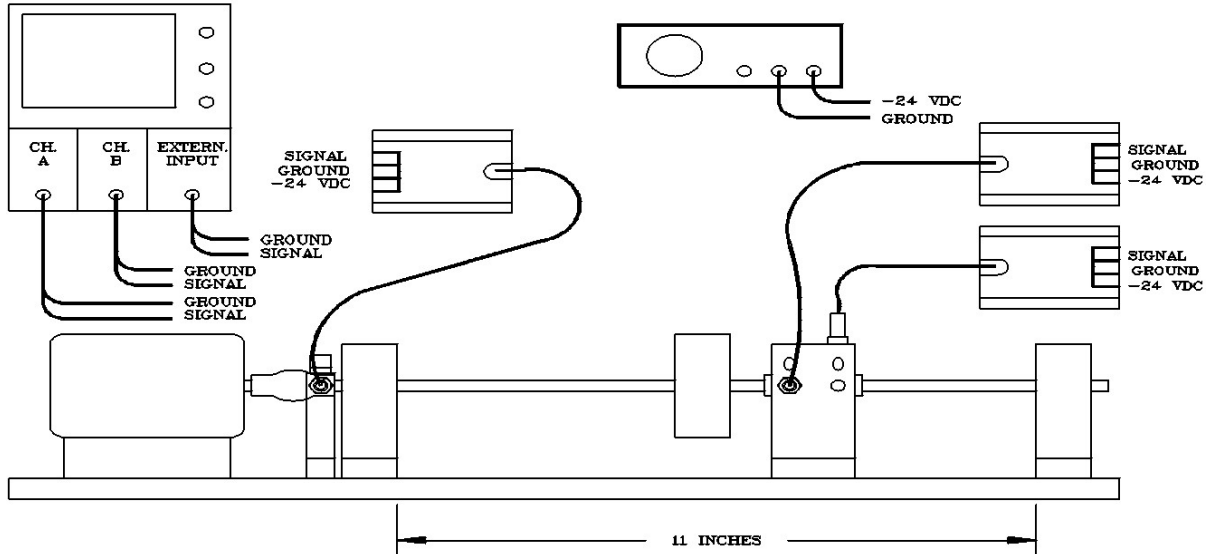

Fig. 3.1
Assemble the demonstration rotor as shown in Figure 3.1 using two (2) sleeve bearing block assemblies, two (2) Eddy Current Transducers, phase wheel, phase transducer, and phase transducer mounting bracket. Install the vibration transducers in vertical and horizontal positions.